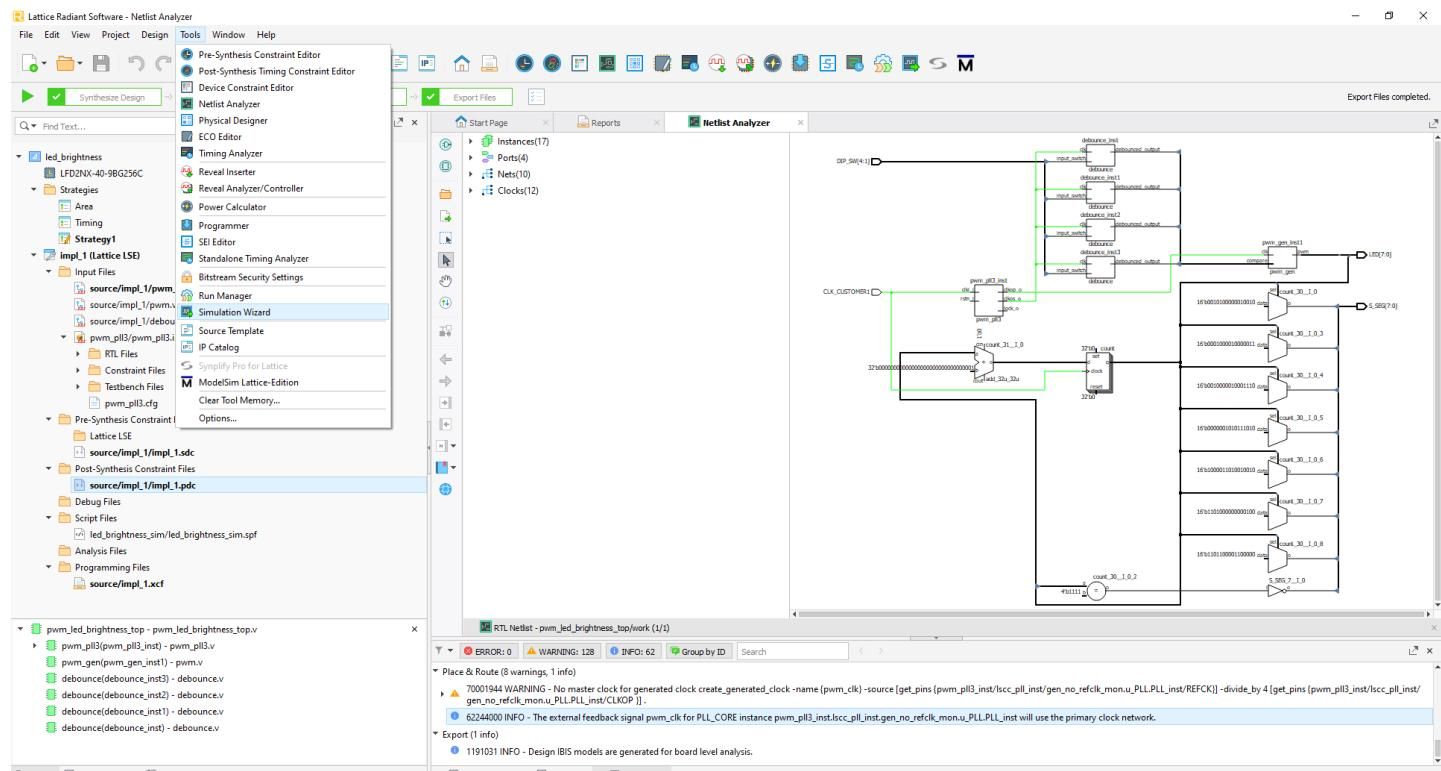

Figure 15: Simulating the Design
16. From the **Tools** menu, select **Simulation Wizard** and click **Next**, see **Figure 15**.